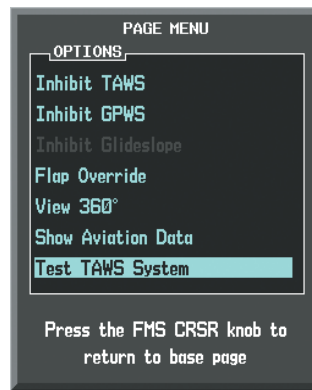

Figure 6-107 TAWS-A Page Menu
- 3) Select 'Test TAWS System' and press the **ENT** Key to confirm the selection. (Figure 6-107)